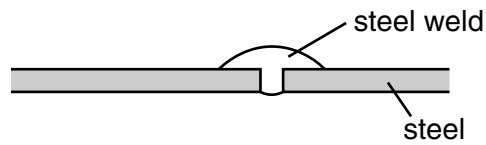

Fig. 5.1
- 5 Lengths of steel may be joined by welding them together, as illustrated in Fig 5.1.